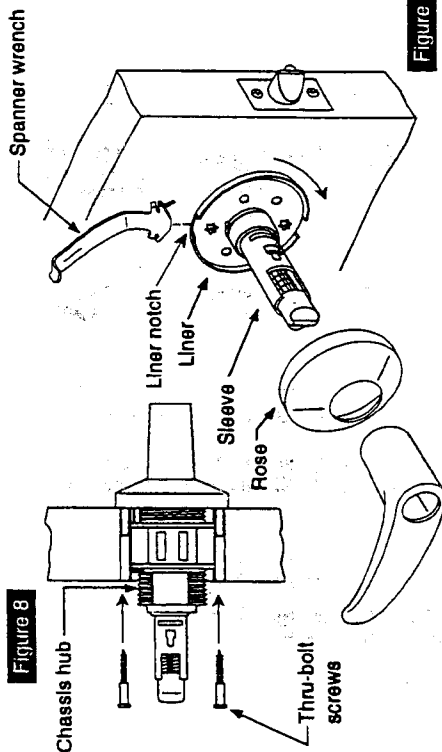

Figure 9
3. Insert the spanner wrench into the liner notch as shown in figure 9 and tighten the liner onto the door.